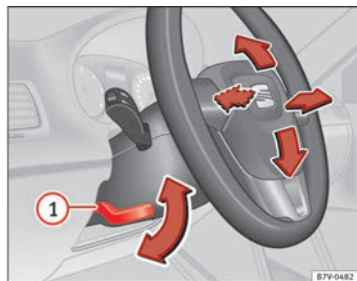

Fig. 127 Mechanical steering wheel adjustment.
- Push the lever ⇒ fig. 127 ① downwards.